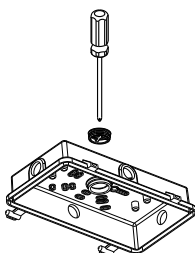

Figure 1-2
- 2.Loosen the 3/4 plug on the driver box cover by screwdriver; Figure 1-2